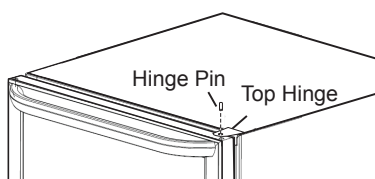

Figure 1
1. Using a Phillips screwdriver, remove the top hinge pin at the top right corner of door. (See Figure 1.)